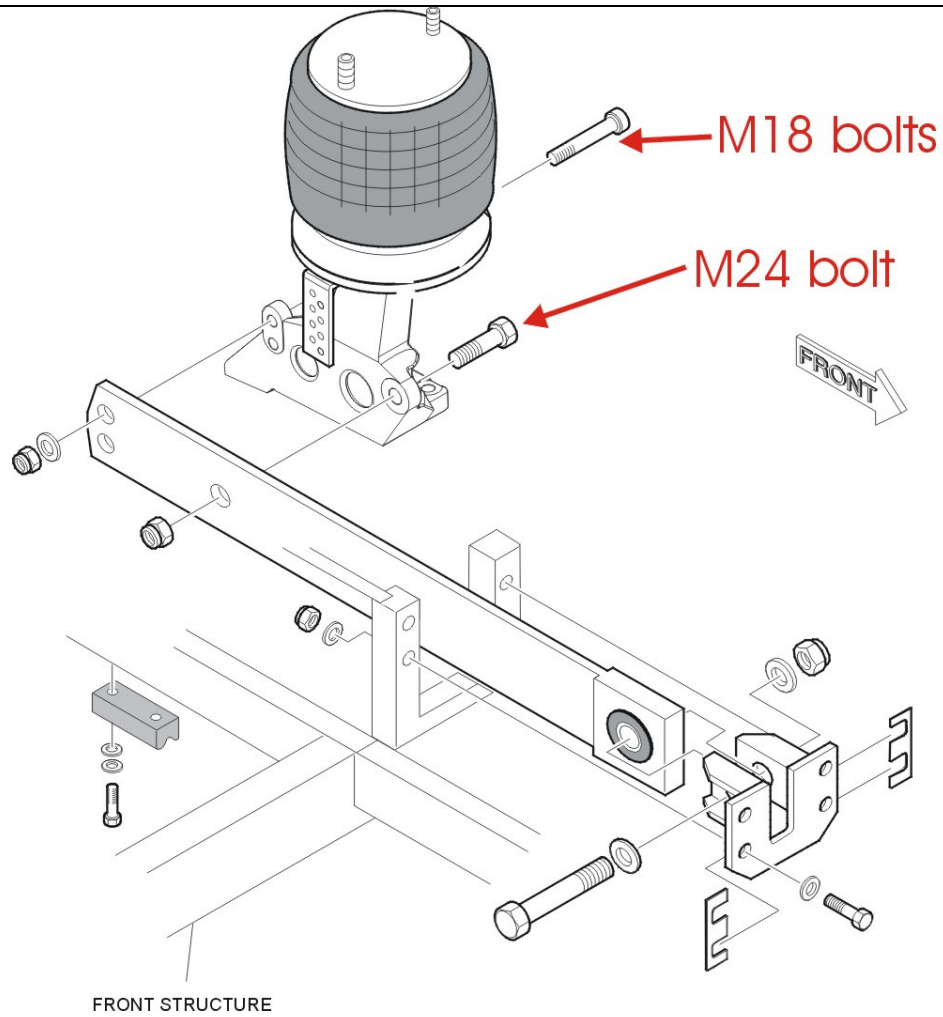

Figure 4: Streetside radius rod hardware.
- j. Align radius rod to air spring tower and reinstall the single M24 bolt and nut loose. See Figure 4.
- k. Reinstall the two M18 bolts and nuts loose. See Figure 4.